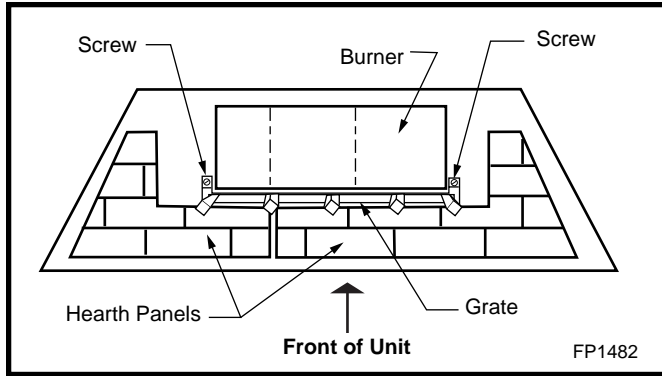

Fig. 47 Hearth panel location.
2. Remove two (2) screws securing grate to hearth pan. (Fig. 47)